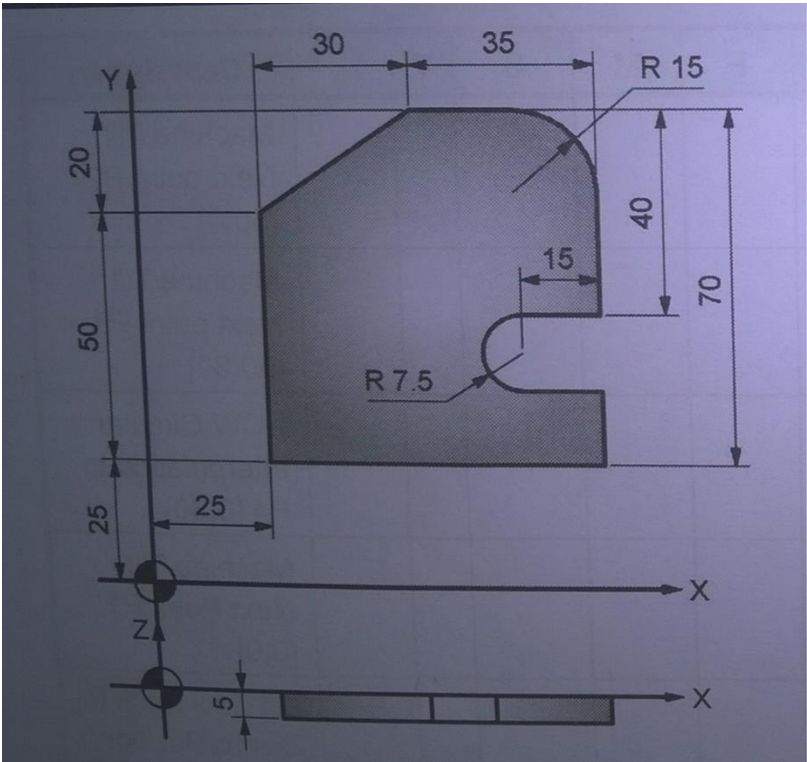

Fig.1
- Q.5** (a) Develop a CNC program, using G and M code, to cut a slot for the component shown in fig.1 by using a end mill of diameter 6mm . The depth of slot is 5mm. Assume suitable data for speed, feed ,etc. **07**